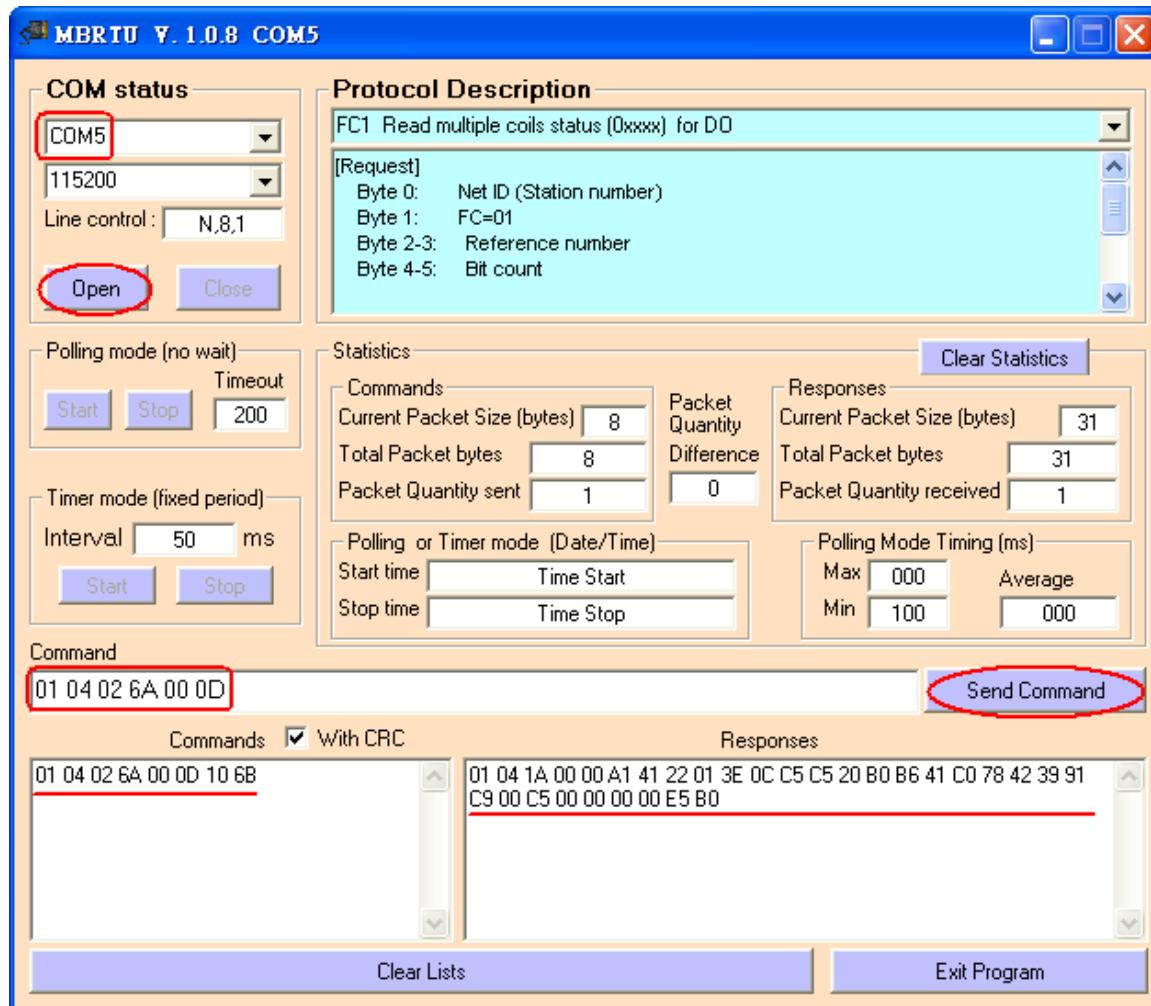

Figure 6-2 Receive HART Command 3 data
- (3) Run “MB/RTU” tool. Set the com port settings the same with HART-710 (Baud Rate / Data Bits / Stop Bits / Parity) and then click “Open” button to connect to HRT-710 like Figure 6-2.
- (4) Input “01 04 02 6A 00 0D” in “Command” field and click “Send Command” button to send the Modbus command. The HART command 3 data will be received in “Responses” field => “01 04 1A 00 00 A1 41 22 01 3E 0C C5 C5 20 B0 B6 41 C0 78 42 39 91 C9 00 C5 00 00 00 E5 B0” like Figure 6-2.